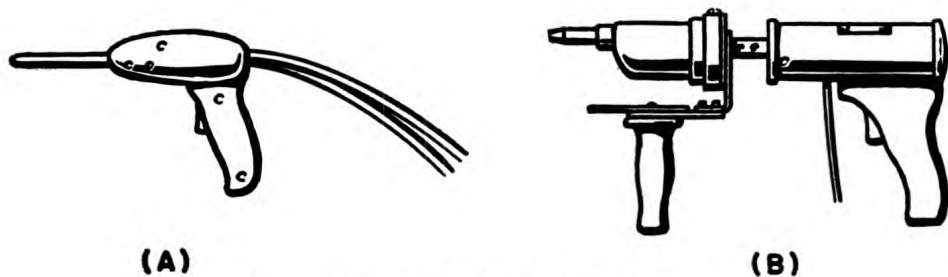

Figure 92.—Explosive rivet guns.
The rivet gun for the explosive rivet is an electrically heated iron, somewhat similar to a soldering iron. The principle on which the gun operates involves the passing of low voltage and high current through two conducting leads and up into a metal tip. Figure 92 shows two types of explosive rivet guns.
There are several types of old and new rivet guns in use now. One of the newest types is shown in figure 92 (B) and another type still in common service is shown in figure 92 (A).